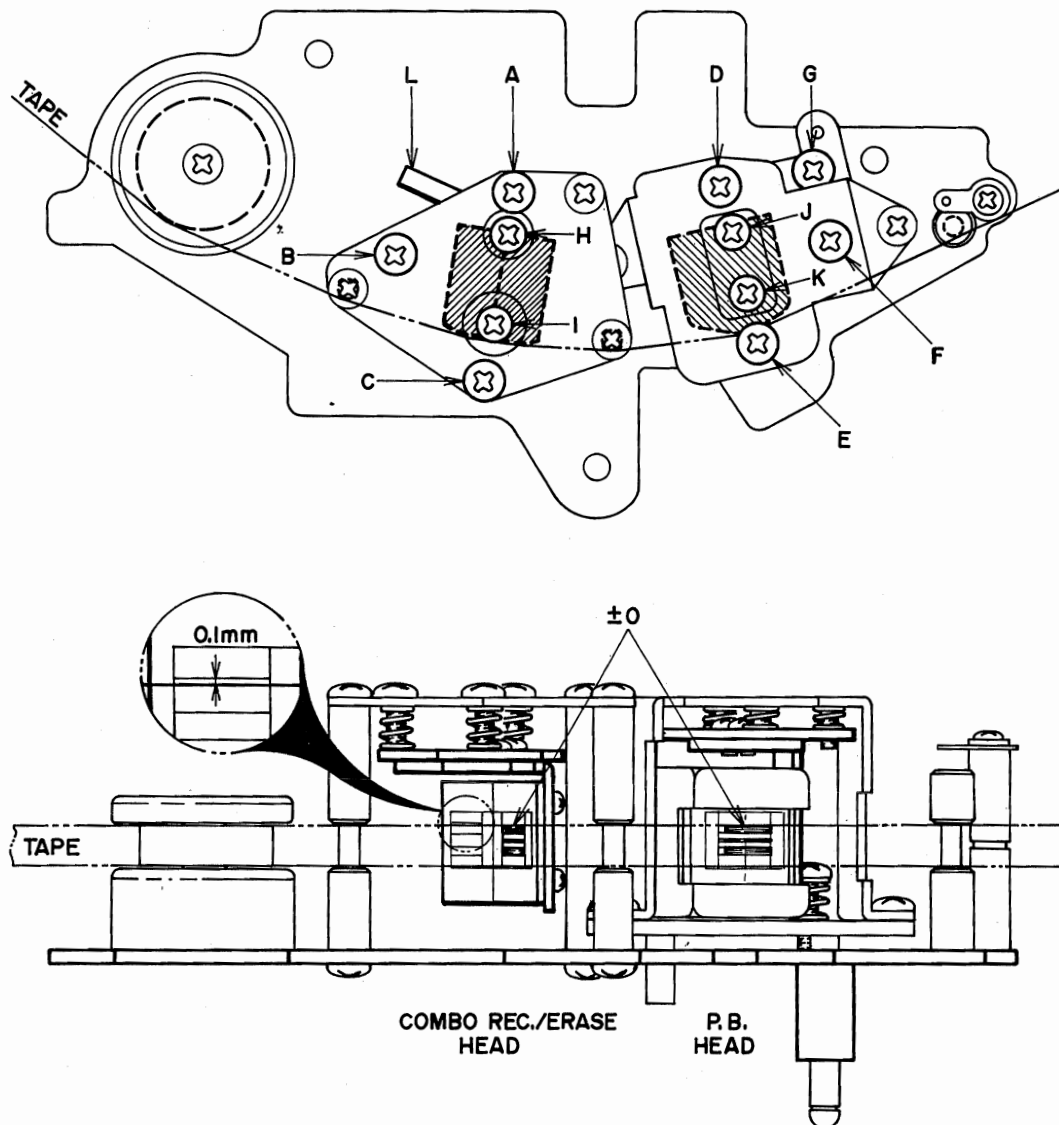

Fig. 18
At Playback mode adjust COMBO head height by turning screws (A) (B) and (C) shown in Fig. 18 to left and right until the upper edge of the tape is the same height as the upper edge of the left channel recording head core.
a) At Forward Playback mode, adjust playback head height by turning screws (D) (E) and (F) shown in Fig. 18 to left and right until the upper edge of the tape is the same height as the upper edge of the left channel playback head core.
b) At Reverse Playback mode, adjust playback head height by turning screw (G) shown in Fig. 18 to left and right until the lower edge of the tape is the same height as the lower edge of the right channel playback head core.
d) At Forward Playback mode, turn Azimuth Alignment Screw (F) shown in Fig. 18 to obtain maximum line output level on both channels.
e) After the adjustment in Item d) above has been completed, loosen screws (J) and (K) shown in Fig. 18 and move the head gap side of the playback head to left and right. When tension is applied to the supply reel side and
- d) At recording mode, turn Azimuth Alignment Adjustment Screw (B) shown in Fig. 18 to left and right until the line output level of both channels is maximum and does not fluctuate.
- e) After completing adjustment in Item d) above, adjust gap side of recording head by moving installation angle (L) shown in Fig. 18 to left and right until the line output level of both channels do not fluctuate (maximum allowable fluctuation within $+0.5/-0$ dB) when tension is applied to the supply reel side.